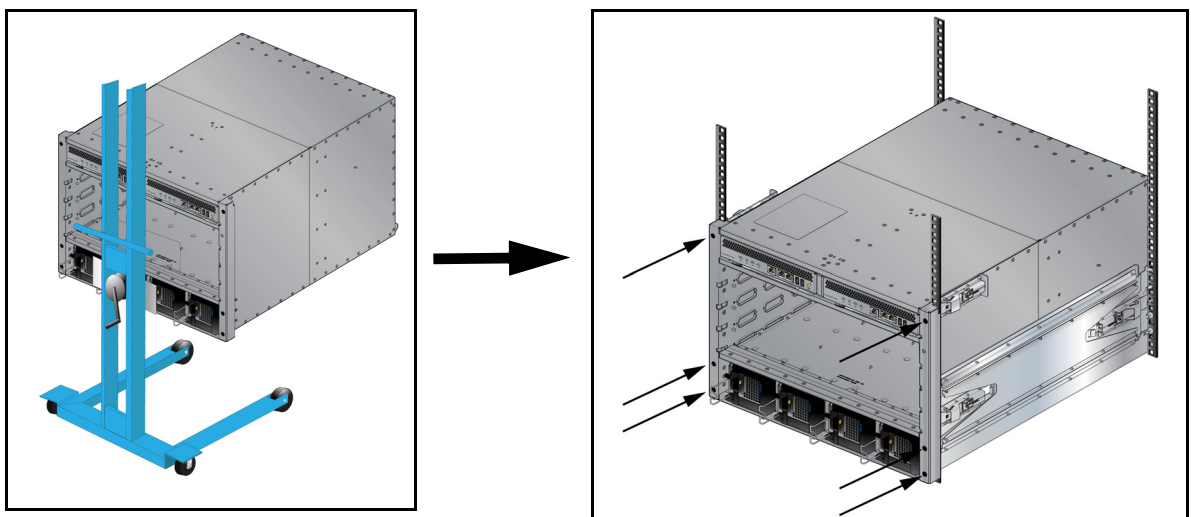

Figure 13: Lifting the Switch Chassis
Step 2 Move the chassis to the rack using a mechanical lift (Figure 13-right). If modules are inserted in the chassis, use the lift carefully to avoid damaging any components.